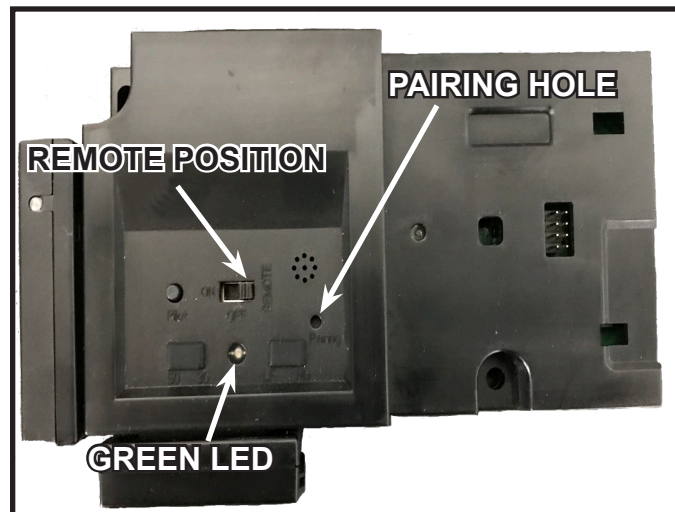

Figure 4 Pairing ECM and RC150U
3. Locate the pairing hole on the ECM. See Figure 4. Using a paper clip or similar item, press and release the pairing button. The ECM will “beep” once and a green LED will blink for 14 seconds.